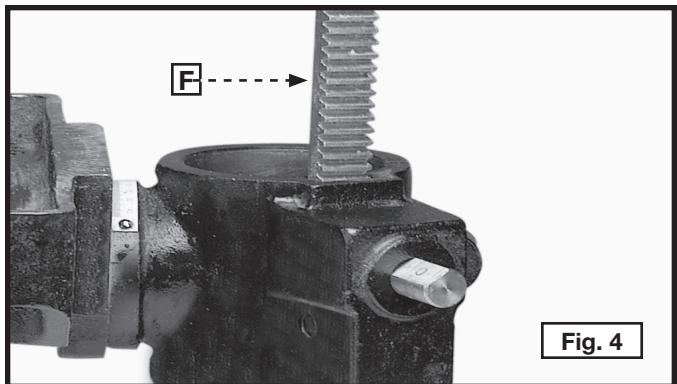

Fig. 4
- Insert the raising rack (F) Fig. 4 (removed in **STEP 1**) in the groove of the table bracket.